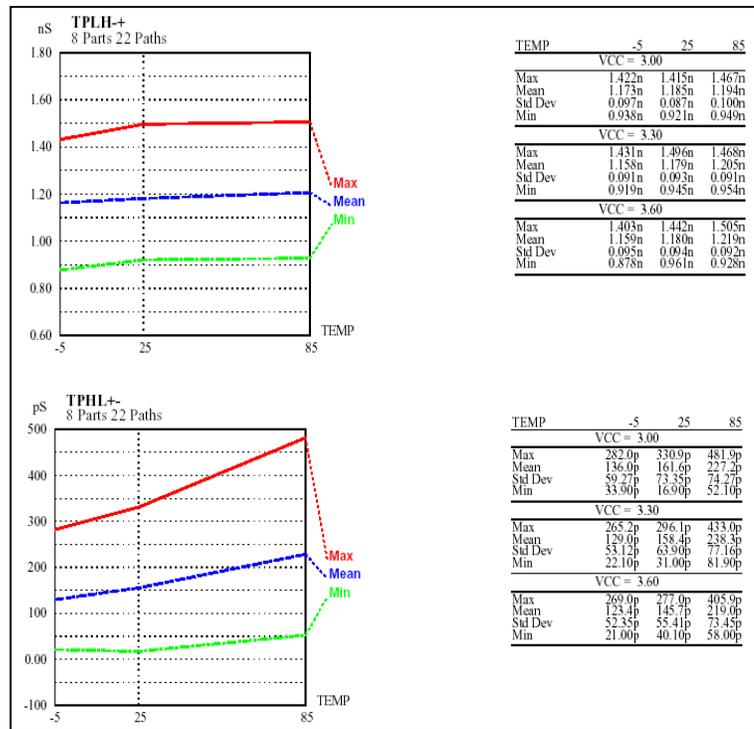

Figure 19. Propagation delay characterization results
**Answer B:** The GTL2000 (and GTL2002 and 10) can be thought of as acting like a wire, with a little resistance and some capacitance. The characterization data that can be found in Figure 19 shows the following: